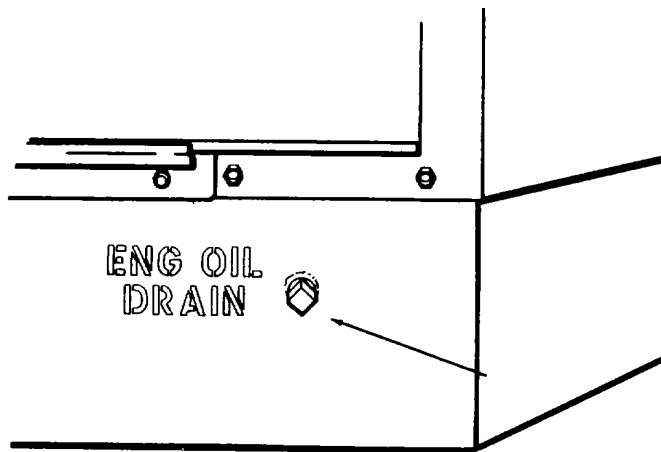

Figure 5-2. Engine Oil Drain
- (2) Drain engine oil. (Figure 5-2)